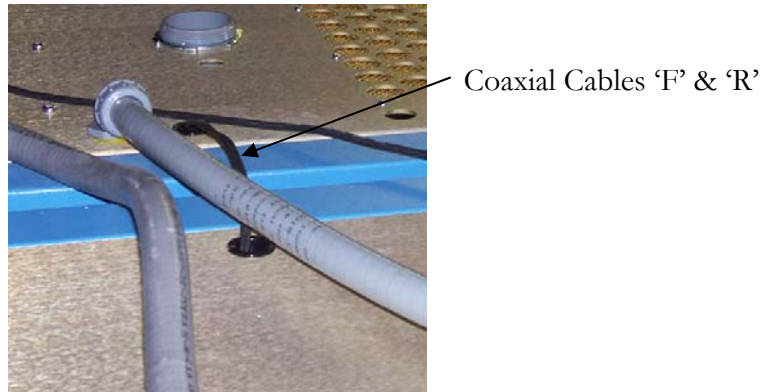

Figure 2-7
- 2.5.1.5 Locate the two coaxial cables with BNC connectors labeled 'F' and 'R' on the top of the PS cabinet. Route these cables through the grommet hole on the PA cabinet (Figure 2-7).